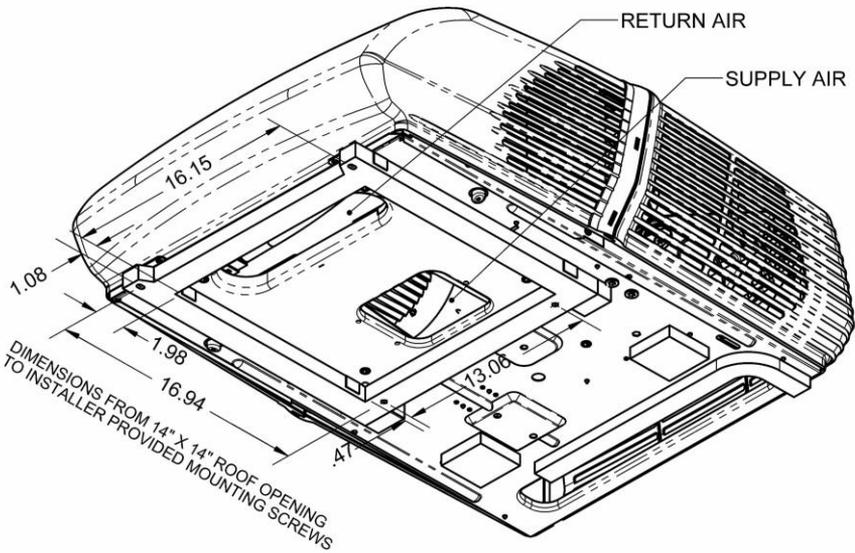

FIGURE 5
4. Using 4 mounting screws (use of sealing washers is optional) run the screws down through the 2 bulkhead flange holes, 2 front mounting brackets and into the vehicle roof. Tighten rear screws just until the rear base pads contact the roof surface (assuming a flat roof surface. Large radius roofs may require additional support gaskets provided by the OEM.) Tighten the front screws until the unit gasket has been evenly compressed. Use care to NOT STRIP the screws. See Figure 5 and 6.